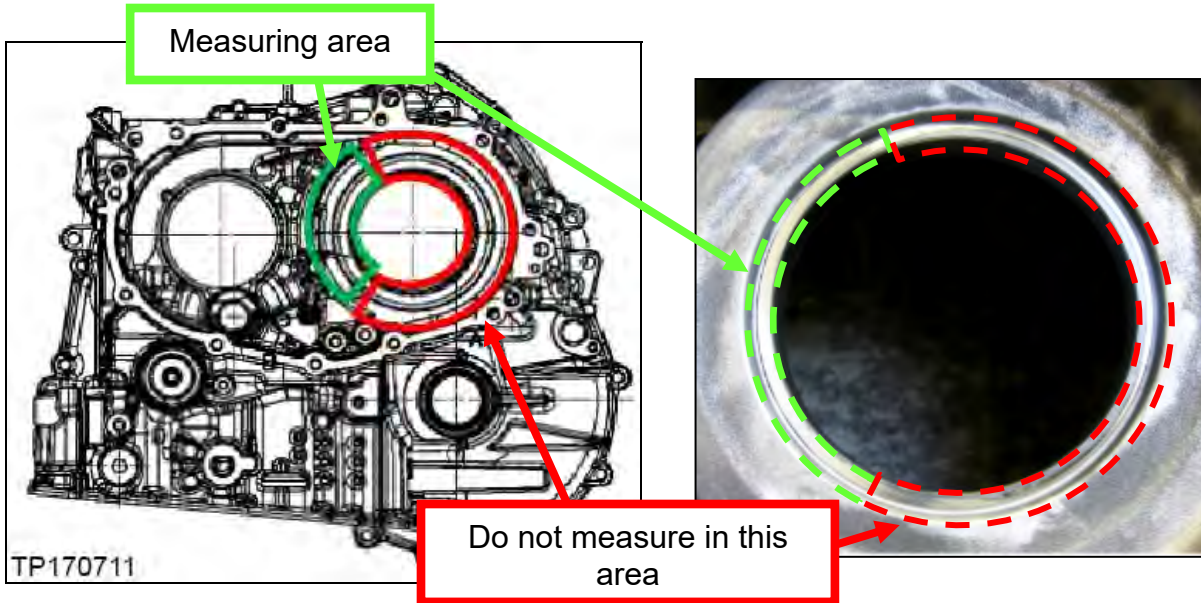

Figure 4M
- Refer to the Figures 4M and 5M and then proceed to page 57.
**IMPORTANT:** Please refer to Figure 4M for acceptable areas (highlighted in green) to measure “**Y**”.